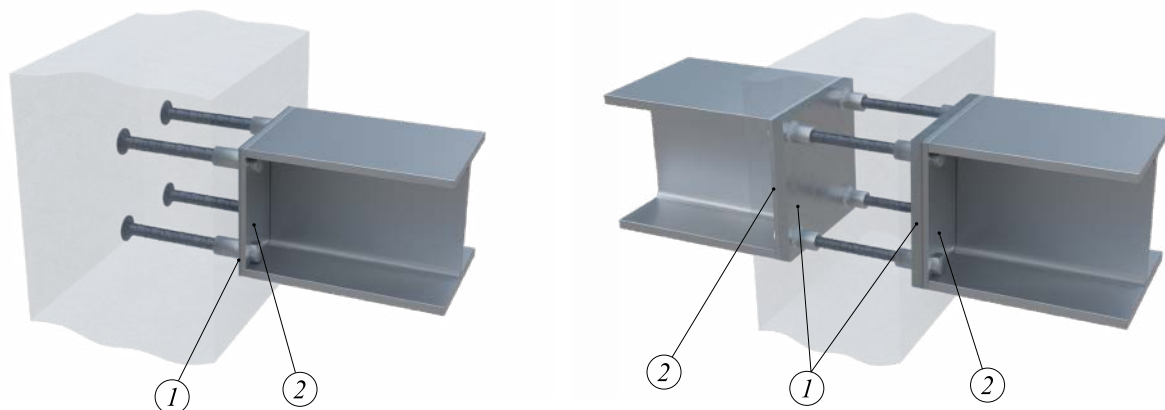

Figure 4. Bolted connection between concrete and steel structure.
THRELDA®, THRELDA® Double T and THRELDA® Double S Anchor Plates are designed to transfer axial forces (acting alongside headed anchors) and shear forces (acting perpendicular to headed anchors) into concrete. The connection between THRELDA® (1) and steel plate of attached element (2) (see Figure 4) is assumed as fully rigid. Forces from the connected profile are transferred through the headed studs into concrete or in case of Double models through rebars to opposite side of concrete element. THRELDA® Double S should be loaded from both sides at same time.